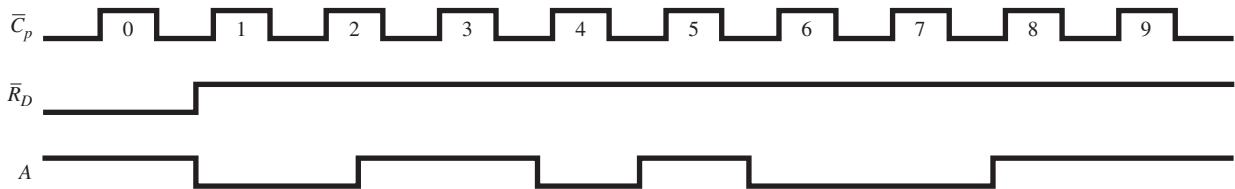

Figure P5
5. Repeat Problem 4 for the input waveforms shown in Figure P5.